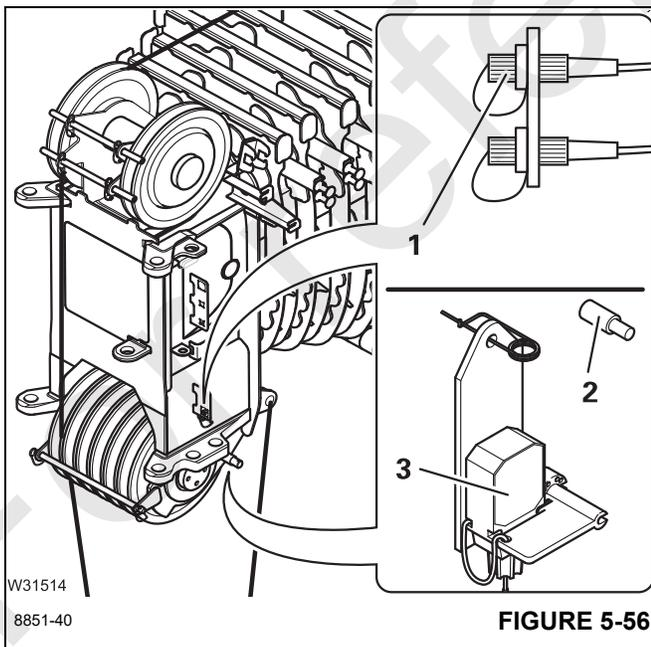

FIGURE 5-56
- Pull out the plug and close the socket with the protective cap (1), (Figure 5-56).
- Remove the anti-two block switch (3), (Figure 5-56) from the bracket (2), (Figure 5-56).
- Attach the retaining pin (4), (Figure 5-56) to the anti-two block switch.